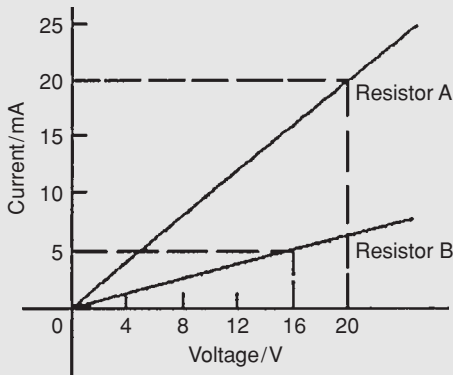

Figure 2.8
**Problem 8.** The current/voltage relationship for two resistors A and B is as shown in Fig. 2.8 Determine the value of the resistance of each resistor.